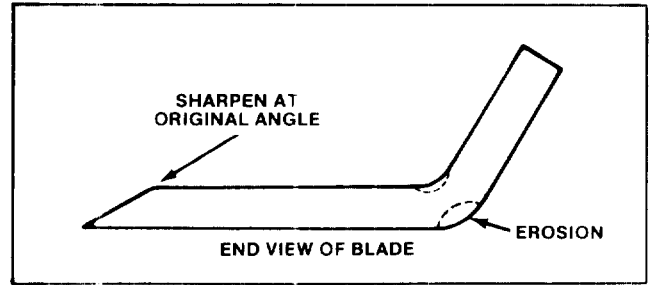

Figure 21
7. Using a file, sharpen cutting edge at both ends of the blade (Fig. 21)
Check cutter blade every time rider is tipped on end. If lock nut holding blade is loose, tighten it to 45-60 ft-lb (61-81 N·m). If blade or sail (Fig. 21) at end of blade is worn, eroded, or cracked, replace the blade. Replace the blade if it is bent or out-of-balance. Always use genuine TORO replacement blades to assure safety and optimum performance. NEVER USE WILL-FIT REPLACEMENT BLADES.
7. Since rider is tipped on end, check condition of blade (Fig. 21).